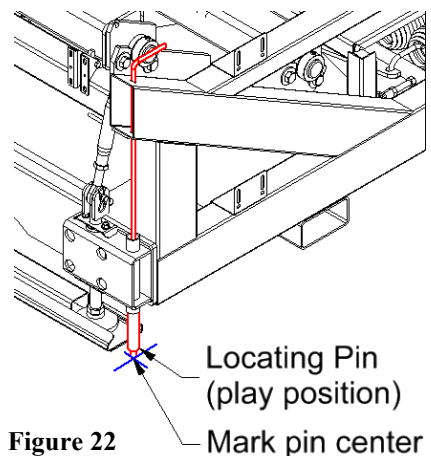

Figure 22
10. Lower the Locator Pins to the "play position" touching the floor. Mark the pin centers on the floor as shown in figure 22.